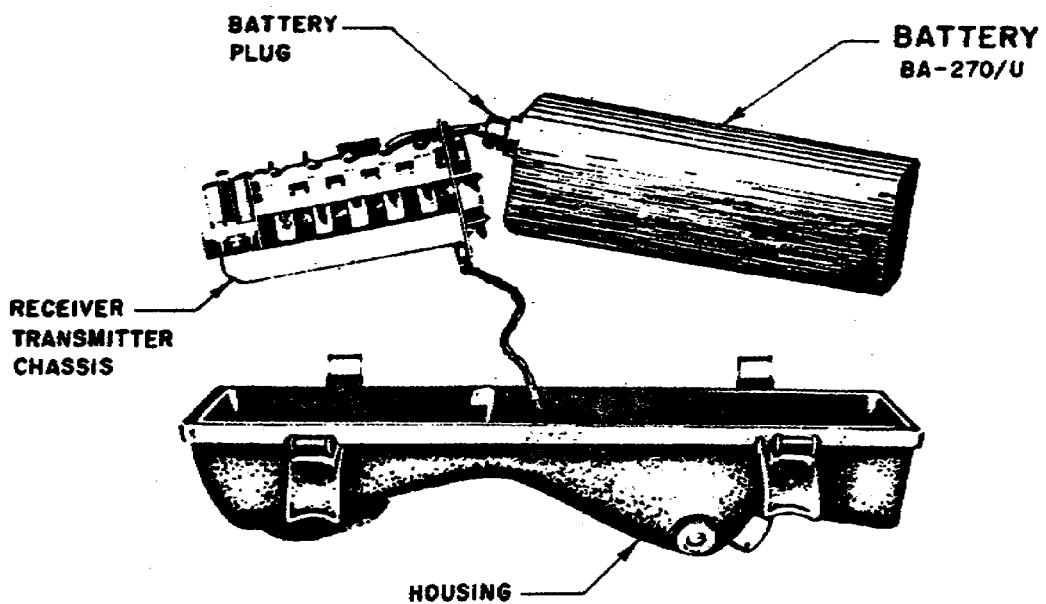

Figure 7. The battery power supply used in the AN/PRC-6.
a. Battery power supplies or battery power packs, as they're called, are most generally used to furnish energy to small portable transceivers. The AN/PRC-6, -8, -9 and -10 are good examples of battery-operated equipment. The battery power supply in the AN/PRC-6 is shown in figure 7.